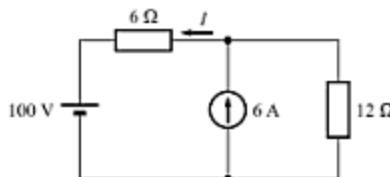

Fig. A-105
- A-69. Use superposition principle to find the power absorbed by the 12-Ω resistor in the circuit shown in Fig. A-105. [Ans. 685 W]